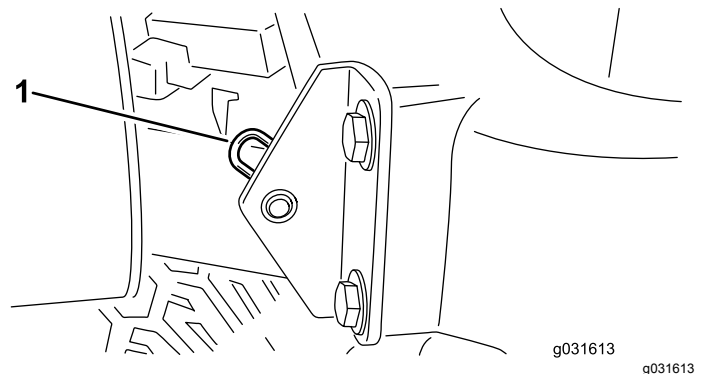

Figure 60
2. Remove the hairpin cotter securing the hood pivot to the mounting brackets (Figure 60).